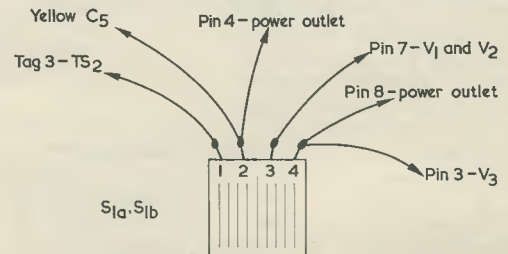
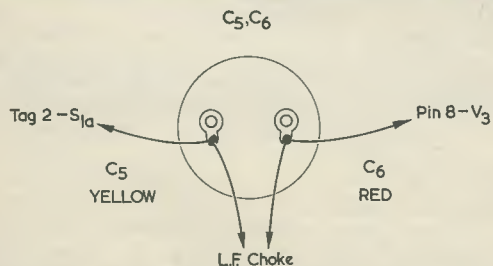
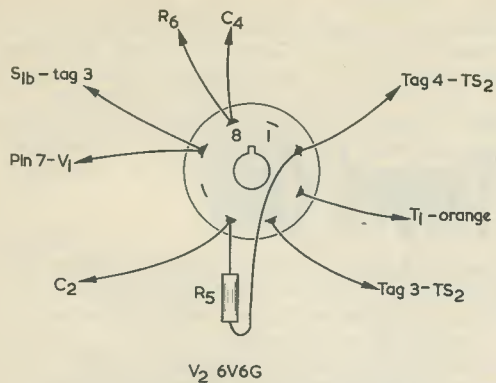
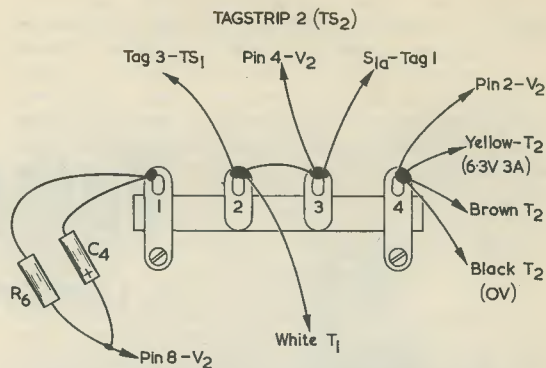

Fig. 4. Switch $S_{1(a)}$, (b) and the required connections
Fig. 5. Connections to the capacitors C₅ and C₆, the earth return being via the metal mounting clip
Fig. 9. Wiring details of V_2 valveholder
Fig. 10. Tagstrip 2 and the required connections. Note the polarity of C_4 . Tags 2 and 3 must be joined together and tags 1 and 4 must be bolted to the chassis
To pin 3 of the valveholder similarly deal with, and connect, the end of the yellow wire from T_2 . The other yellow wire from T_2 should also be dealt with in the same manner and soldered to tag 4 of tagstrip 2 (that associated with V_2 valveholder and shown in Fig. 10). To the same tag of this tagstrip should now be secured the brown wire from T_2 .
To pin 3 of the V_3 valveholder solder one end of a short length of p.v.c. covered wire and connect the other end to tag 4 of the switch $S_{1(b)}$ shown in Fig. 4. Pin 3 of this valveholder is only used here as an anchoring point—there is no internal connection to the valve itself.
To tag 4 of tagstrip 2 connect the end of the black (OV) wire from T₂ (see Fig. 10).
Refer now to Fig. 4 (switch S_{1(a)}, (b)). To tag 1 of S_{1(a)} solder one end of a length of p.v.c. covered wire, the other end of which connects to tag 3 of tagstrip 2 (see Fig. 10). To tag 2 of the switch connect a length of p.v.c. covered wire and solder the other end to pin 4 of the power outlet socket mounted on the rear apron of the chassis. Also to tag 2 connect a further length of p.v.c. covered wire and solder the other end to C₅ yellow tag—see Fig. 5. To tag 3 of the switch connect a length of p.v.c. covered wire and solder the other end to pin 7 of V₂. To this latter point also solder a further length of p.v.c. covered wire and connect the other end to pin 7 of V₁. These last two connections are for the 6.3V heater supply and the wires should be routed close to the chassis deck and as far away from the other valveholder tags as possible.
Refer next to Fig. 5. To the red tag (C₆ 16μF), to which one connection has already been made, solder one wire from the l.f. choke. Connect the other wire from the l.f. choke to the yellow tag (C₅ 32μF). It does not matter which way round the l.f. choke is connected.
To pin 3 of V_1 connect one end of C_2 (0.1 μ F) the other end of which connects to pin 5 of V_2 . (See Fig. 9.) The connections to pins 5 and 7 of V_1 have already been made.
To tag 2 of tagstrip 1 connect one end of R_3 (100k Ω brown, black, yellow) the other end of which connects to pin 3 of V_1 . Also to tag 2 connect the positive end of C_1 (2 μ F 350V wkg.), and one end of R_2 (47k Ω yellow, violet, orange). The other end of R_2 connects to tag 3 of the tagstrip and that of C_1 to tag 4, the other connection to this latter tag having already been made. To tag 3 of the tagstrip solder a length of p.v.c. covered wire, the other end of which connects to tag 2 of tagstrip 2. (See Fig. 10.) This latter connection point is the h.t. positive supply to the V_1 stage. It should be noted that both tags 1 and 4 must be securely bolted to the chassis. This completes the wiring-up of the V_1 stage.
Refer to both Figs. 9 and 10. Fig. 9 shows the connections to the V_2 valveholder. To pin 2 solder a length of p.v.c. covered wire and connect the other end to tag 4 of tagstrip 2 (see Fig. 10). Also to this same pin of the valveholder solder one end of R_5 (470k Ω yellow, violet, yellow) the other end of this resistor being connected to pin 5 of the